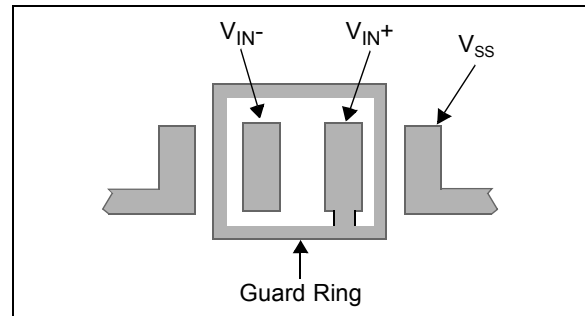

FIGURE 3-5: Example Guard Ring Layout for Inverting Gain.
The easiest way to reduce surface leakage is to use a guard ring around sensitive pins (or traces). The guard ring is biased at the same voltage as the sensitive pin. An example of this type of layout is shown in Figure 3-5.
1. For Inverting (Figure 3-5) and Transimpedance Amplifiers (convert current to voltage, such as photo detectors):